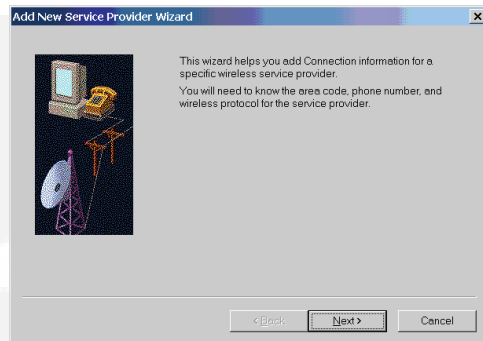

FIGURE 15-7. ADD NEW SERVICE PROVIDER WIZARD
4. The Add New Service Provider Wizard window is displayed to help guide you through the setup. Click on the **Next** button to proceed. Figure 15-7.